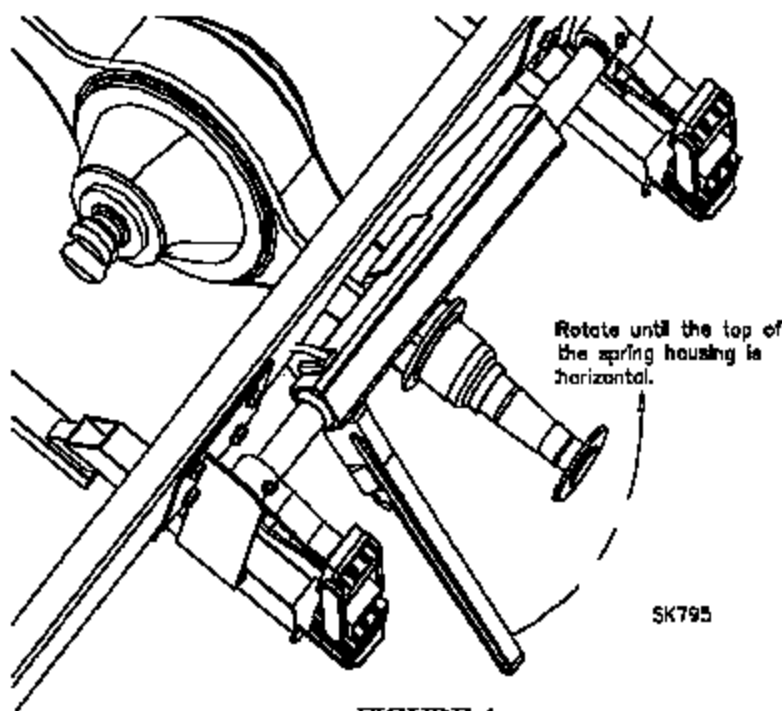

FIGURE 4
8. Attach Springs to Axle: Place each upper axle spacer (11) onto the axle spring seat with the thicker sides at the front and the dowel pin inserted. Using a long 4" open-end wrench or pipe wrench, twist each main spring housing (Figure 4) so that it moves downward (so that the top surface of the square spring is horizontal) and the two center-pins of each main spring (4) fit into the two slotted holes of the axle spacer blocks (11). Place a bearing plate (7) on the top center of each main spring (4). From the bottom, slide two 5/8" U-bolts (8) up around the axle and through the holes in the bearing plate brackets (7). Screw the 5/8", high hex nuts (9) onto the U-Bolts and tighten the nuts until the brackets are held snugly together around the axle. **Note:** Make sure that the two spring pins are inserted into the axle block holes and that the dowel pin is inserted in the axle housing, prior to tightening the U-bolts. Also, Do not torque the U-bolts until Step 9 after the axle is aligned.